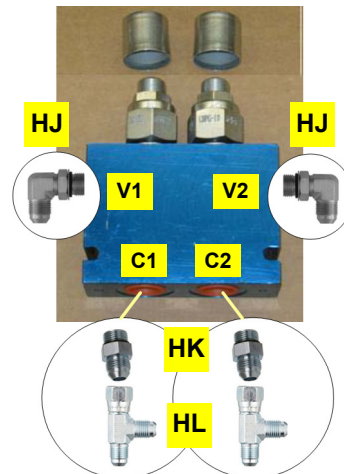

Figure 7a: CBV port fittings
- a. Prepare counterbalance valve (CBV) **HI** by installing adapter fittings as follows (Figure 7a):